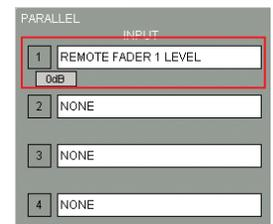

Fig. 15 REMOTE FADER Setting
3. Select the REMOTE FADER1 LEVEL on the PARALLEL/PROJECTOR CONTROL screen. This selection appears on a drop-down list on INPUT 1 (Fig. 15).